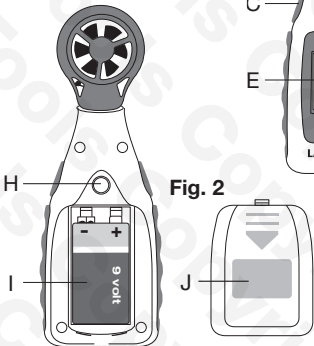
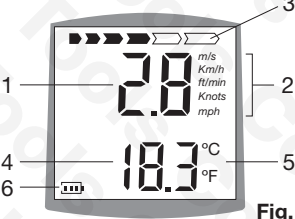

Fig. 2
Fig. 3
Refer to Fig. 2: Before using the device, open the battery door (press down in direction of arrow) and install the 9V PP3 battery. When battery indicator (5 in Fig. 3) shows battery is low (zero bars) then replace battery. Using the device with a weak battery readings may show incorrect
1. Switch the device ON by pressing the power switch (B).
2. Press wind speed unit selection metres per second, kilometres per knots or miles per hour. button (B), to select hour, feet per minute,
3. Temperature unit selection: press mode selector button (C) for approximately 3-4 seconds to switch from °C to °F. mode selector button
4. Wind speed reading mode: press mode selector button (C) to select MAX (maximum wind speed measured); press again to select AVG (average wind speed measured); press again to return to normal reading mode.
5. You can measure wind speed and temperature levels by holding the instrument in your hand, or mounting on a tripod. Refer to H in Fig. 2 for position of tripod mount.
- Automatic back-light: when there is a low light environment, the sensor (F) will detect this and switch on the LCD display back-light.
- The device will automatically power off after 10 minutes. Use power switch (B) to turn off directly.
- Visual wind speed indicator (3 in Fig. 3): offers an easily read visual indicator of increase in wind speed.